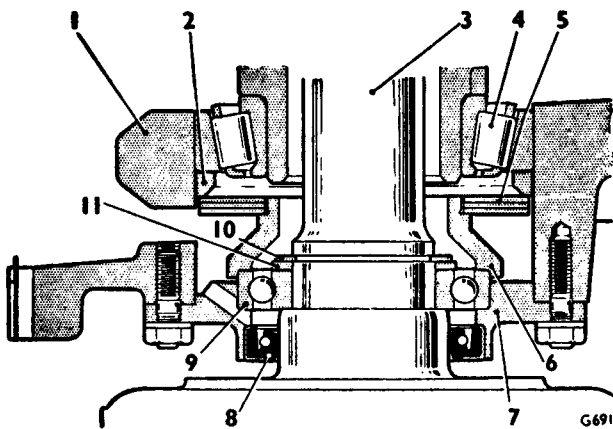

FIG. J16 CROSS-SECTION—FINAL DRIVE SIDE HOUSING
5. Fit the housing to the shaft; place the washer in position behind the bearing and fit the circlip, ensuring that it is correctly located in the groove (see Fig. J16).
6. Fit a new bearing ensuring that it is fitted squarely and up to its abutment face (see Fig. J16).